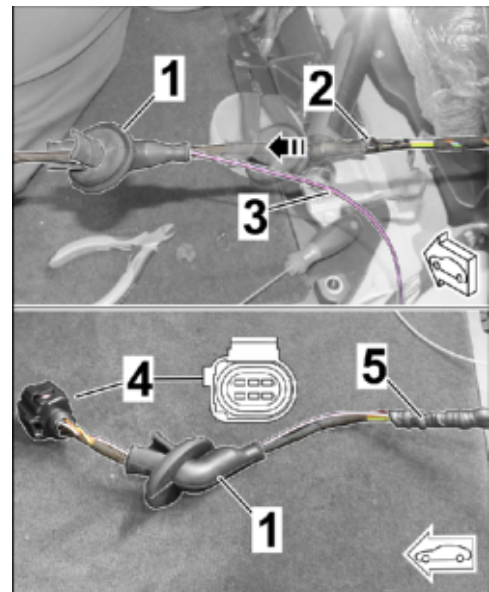

Figure 7
⇒ *Figure 7*
- Remove branch (wire harness) for tail light with grommet (⇒ *Figure 7 -2-*).
- Carefully loosen the installed grommet on the branch (wire harness) and slide it towards the connector (6-pin). ⇒ *Figure 7 -Top, arrow-*
- Carefully install grommet with some sealing compound at the old position (⇒ *Figure 7 -5-*).